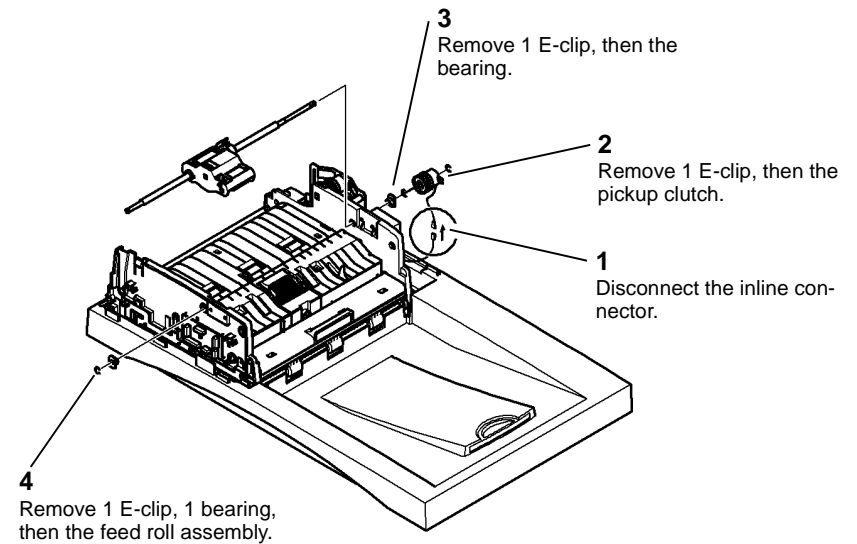

Figure 11 Feed roll assembly removal
12. Remove the feed roll assembly, Figure 11.